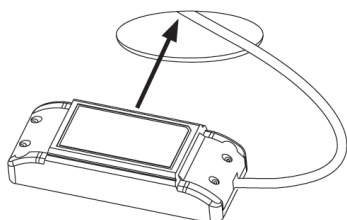

FIG 3
- Insert the plug, cord and LED driver into the ceiling and connect the plug to a suitable power socket (FIG 3).